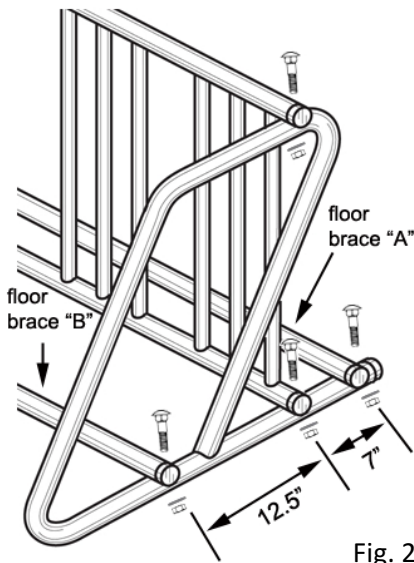

Fig. 2a
Step 1: Starting with one side, align the bike grid to the side rail as shown in Fig. 2a. **Be sure to use the correct holes.** Insert bolts as shown, then attach washers and nuts to bolt. Finger-tighten nuts.